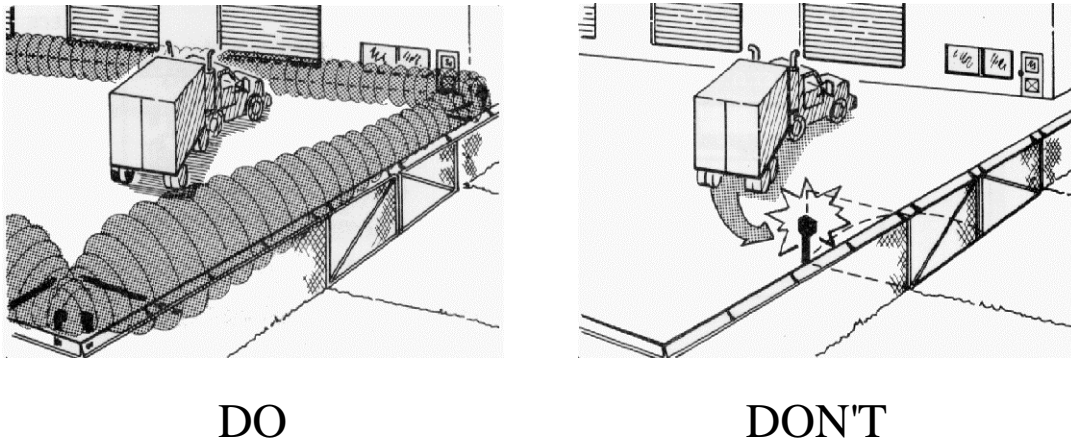

Figure 5: Physical Protection
4. Physical Protection. Install the Transmitter and Receiver in a location which provides protection from accidental damage as well as from tampering. If units must be installed near roadways or where they will be vulnerable to vehicle traffic, installing devices such as bumper posts or parking guards can provide additional protection. See Figure 5.